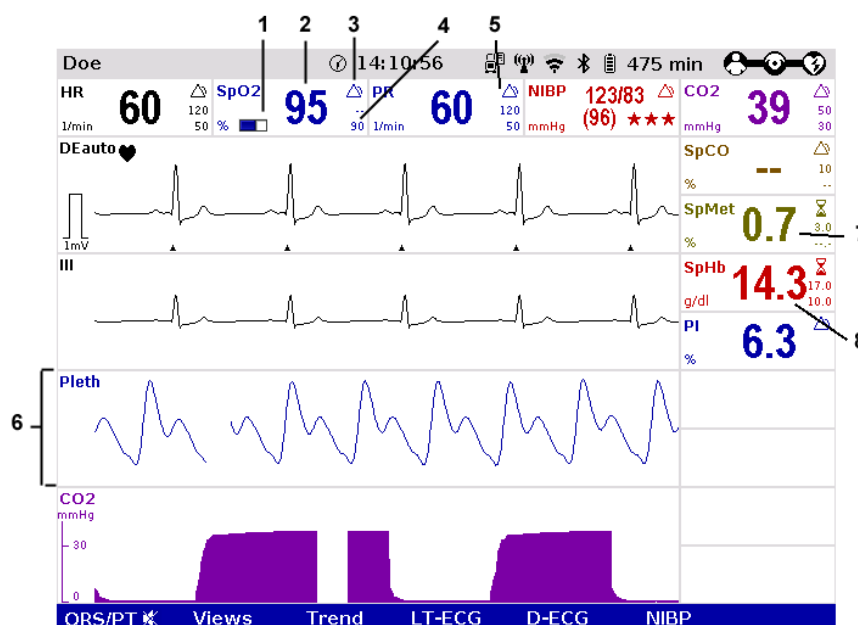

Fig. 6-20 Oximetry monitoring, configured screen (illustration may differ)
The signal intensity is a quality criterion for the capturing of measurement values. The signal intensity is measured and displayed as a horizontal bar in the parameter field SpO₂ (see page 132 Fig. 6-20, item 1).